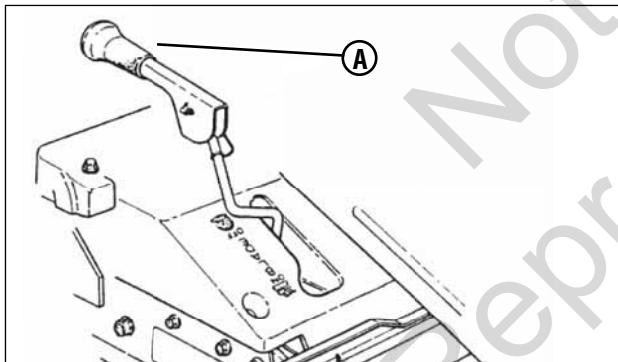

Figure 4: Blade lever (in ‘Off’ position)
2. Make certain the Blade Lever (A, **Figure 4**) is in the “OFF” position.
2. Make certain the Blade Lever (A, Figure 4) is in the "OFF" position.